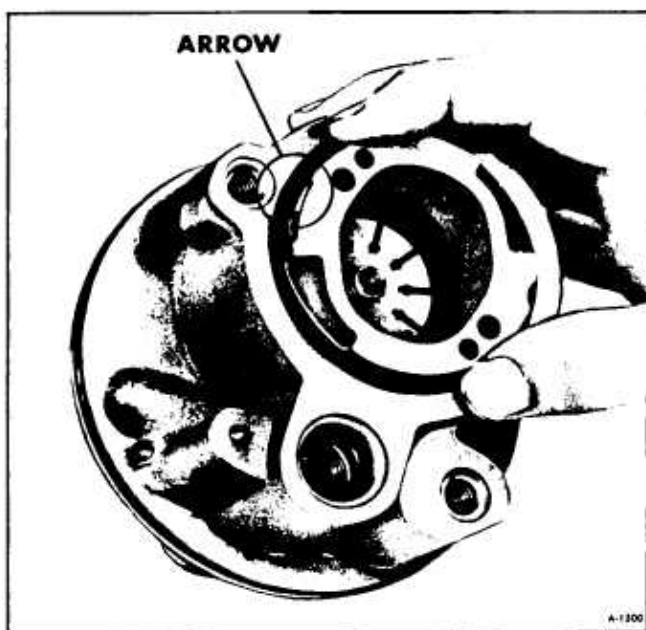

Figure 18—Pump Ring Showing Arrow
6. Install pump ring on dowel pins with the arrow toward rear of housing (figure 18).